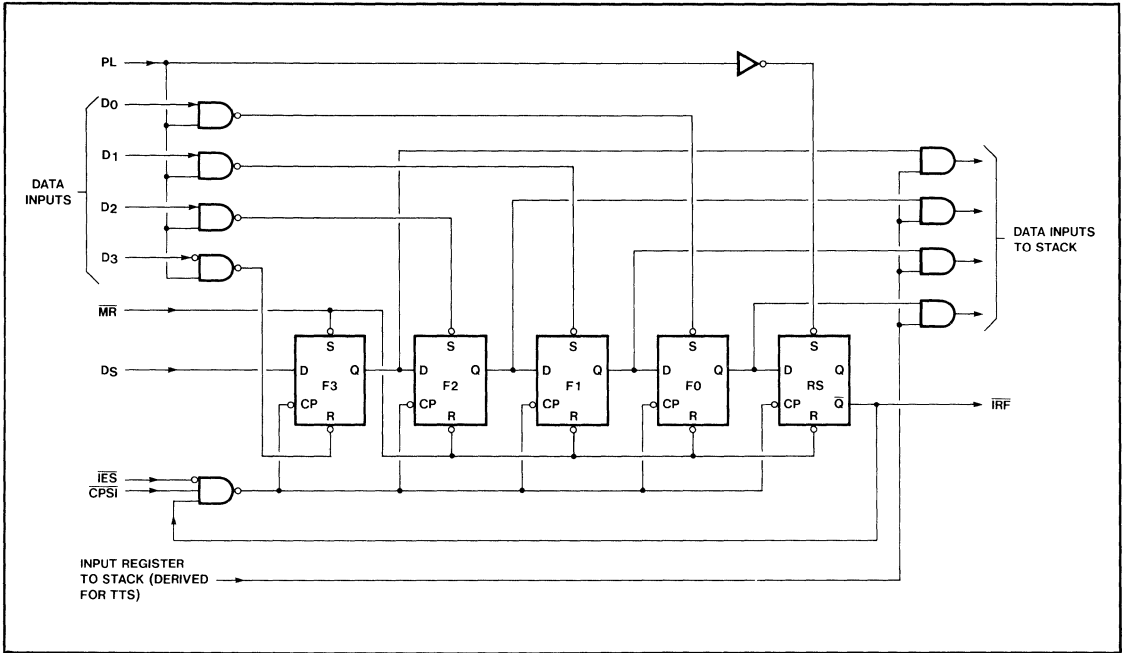

Figure 2. Functional Equivalent of Input Register
the functional equivalent of this register is shown in Figure 2. The Input Register Full ($\overline{\text{IRF}}$) status signal is internally generated by the Register Status (RS) flip-flop; when initialized, the $\overline{\text{Q}}$ ($\overline{\text{IRF}}$) output of this flip-flop is high.
When PL is high and $\overline{\text{CPSI}}$ is low (Figure 2), flip-flops F0-F3 are loaded with data and $\overline{\text{IRF}}$ is forced low. This condition remains until current data is transferred to the stack. Once the data is transferred, $\overline{\text{IRF}}$ is driven high and new data can again be clocked into the input flip-flops. If parallel expansion is not being implemented, $\overline{\text{IES}}$ must be low to establish row mastership—refer to discussion of parallel expansion.
As shown in Figure 2, the outputs of F0-F3 are applied to the stack under control of a signal derived from \overline{TTS} . When \overline{TTS} is low, an attempt to initiate a fall-through action is made. If the top location of stack is empty, data is loaded and the input register is re-initialized provided PL is low. Note that initialization is postponed until PL is again low. Thus, automatic FIFO action is achieved by connecting the \overline{TTS} input to the \overline{IRF} output
The RS flip-flop (Figure 2) records the fact that data has been transferred to the stack; this flip-flop is not cleared until PL goes low. Therefore, if a particular data word is transferred to the stack and falls to the second location before PL goes low, the same word will not be re-transferred even though \overline{IRF} and \overline{TTS} are still low. Once data enters the stack, "fall-through" is automatic; a delay is necessary only when waiting for the next stack location to empty. In the 9403, as in most modern FIFO designs, the MR input initializes the stack control section and does not clear the data